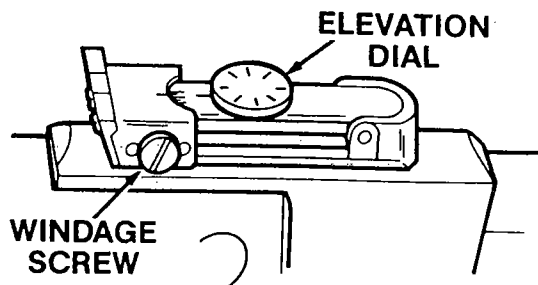

FIG. 7
**Elevation** is set by means of the knurled rear sight elevating dial situated on the rear sight plate. Turn the dial counter-clockwise to make the pellet hit higher on the target and turn the dial clockwise to make the pellet hit lower on the target. (Fig. 7.)
**Windage** is set by moving the rear sight windage screw located on the right side of the sight. Turn the screw counterclockwise to move the sight to the right and clockwise to move it to the left. (Fig. 7.)